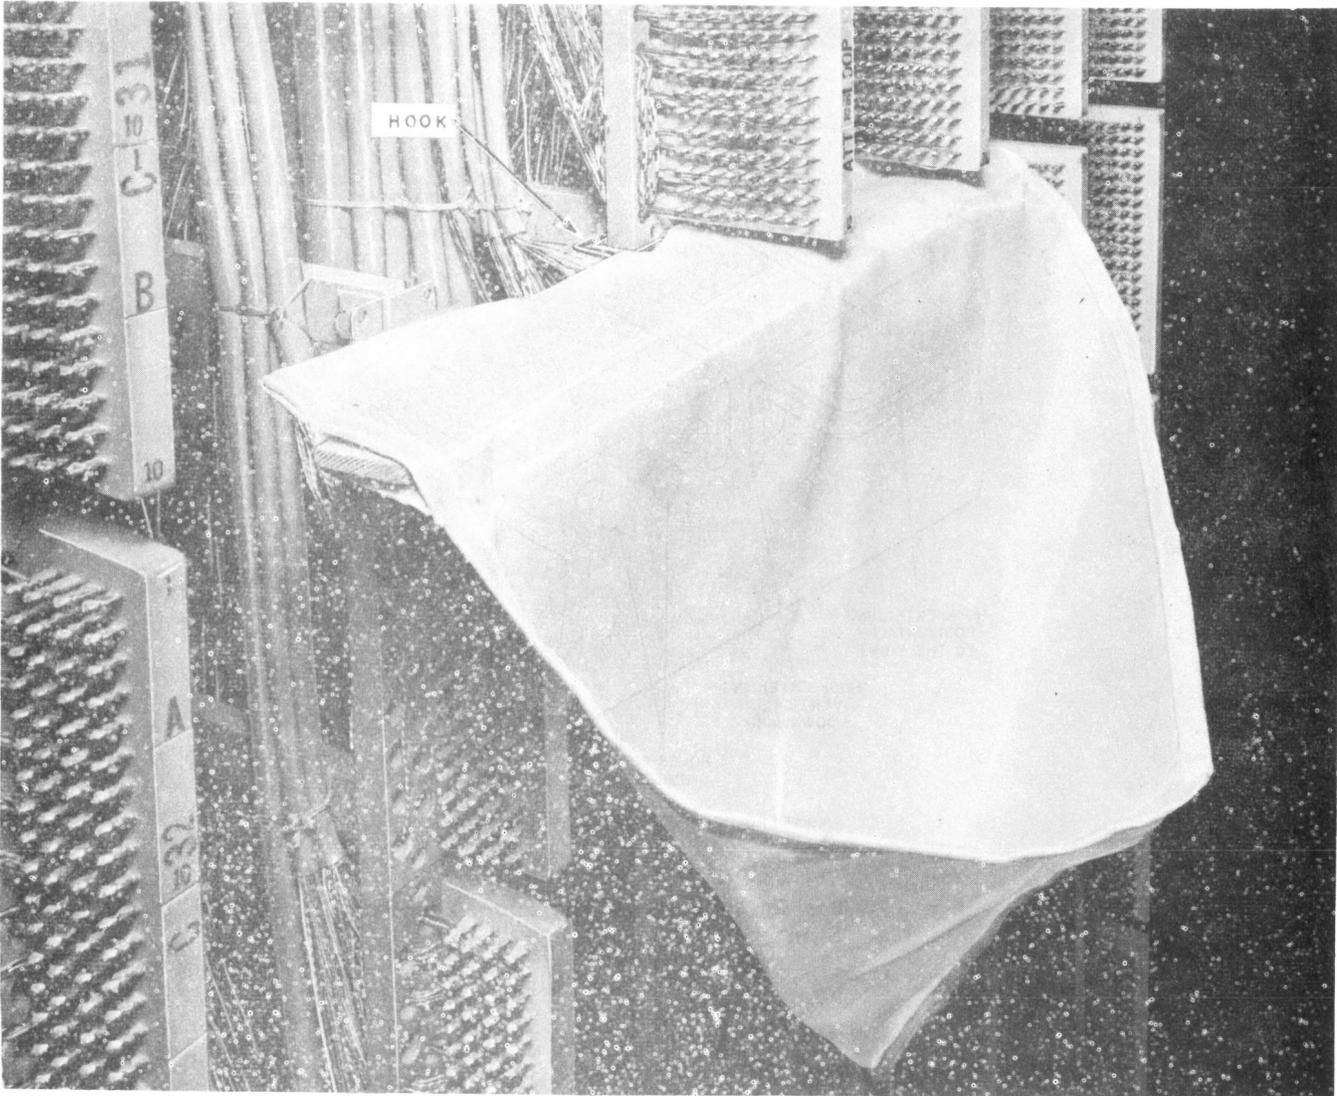

Fig. 4 — Distributing Frame Bag on Vertical Frame
B. Use on Vertical Frames (Fig. 4)